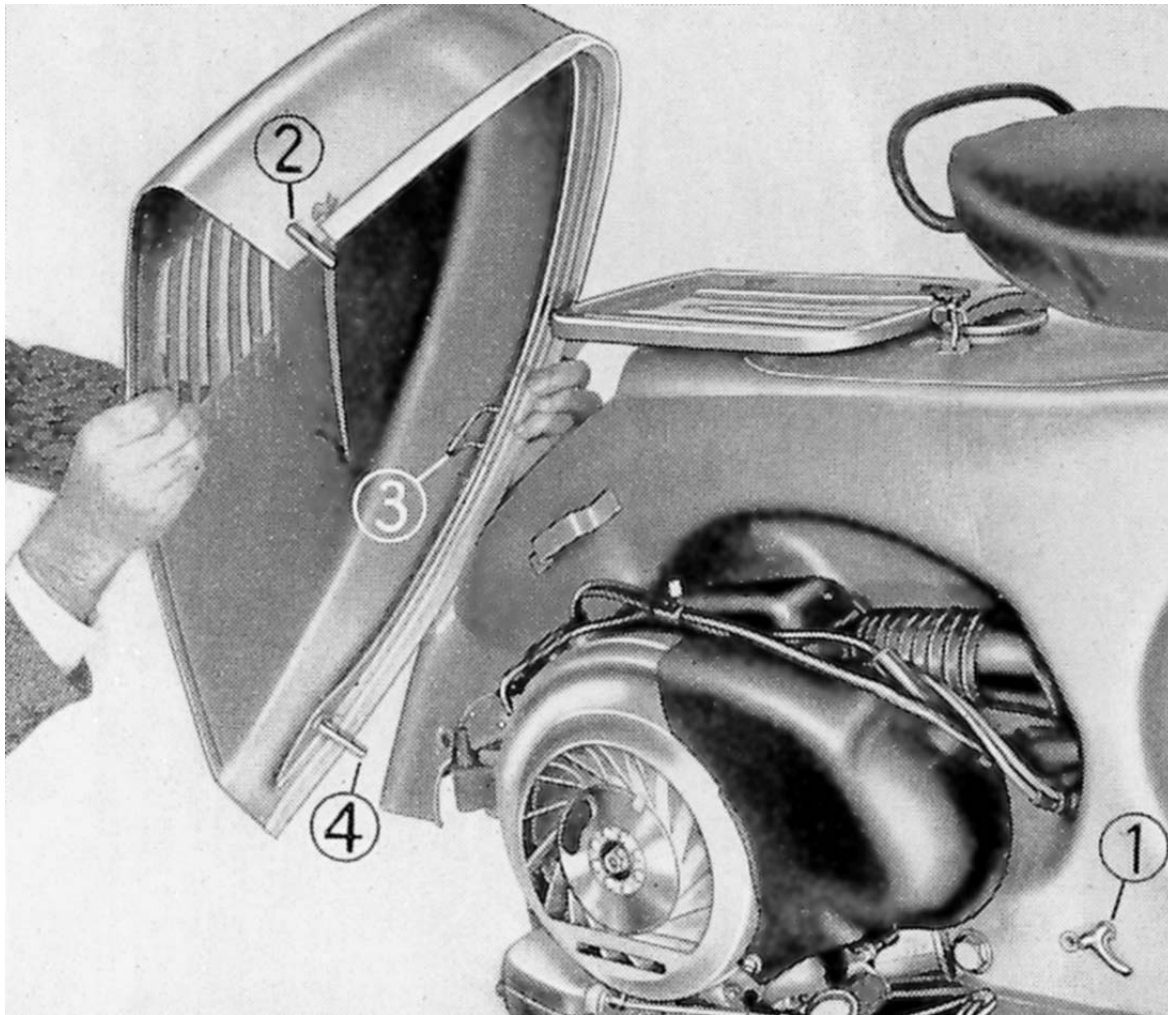
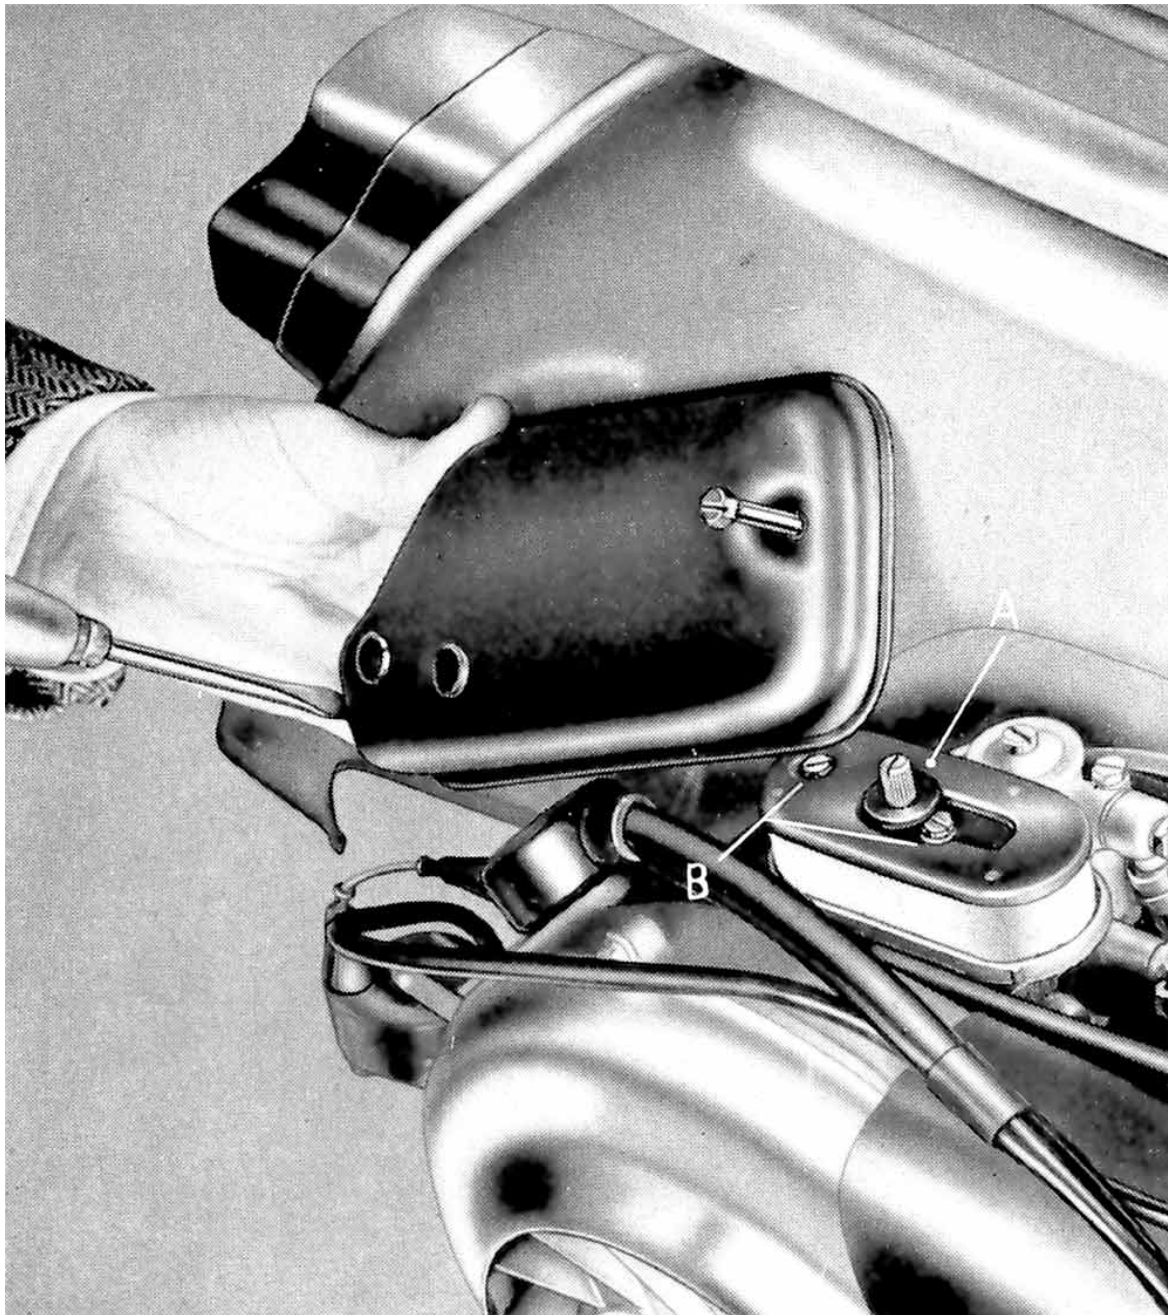

Fig. 8 - Removing engine cowl.
Fig. 11 -Dismantling the air cleaner
Remove engine cowl (Fig. 8), disconnect the H. T. lead and extract the spark - plug using the box wrench as indicated in fig. 10.
For extracting the air filter (A) (fig. 11) from the air filter case remove the engine cowl (fig. 8) and air cleaner case cap. Unscrew the two screws (B) securing the air filter and extract the latter component.
DISMANTLING CYLINDER HEAD Strips off engine cowling, (Fig. 8), disconnect the H. T. lead, dismantle the Cooling hood (fastenings (B) (C), fig. 11) and unscrew the 4 securing bolts by means of a box wrench.